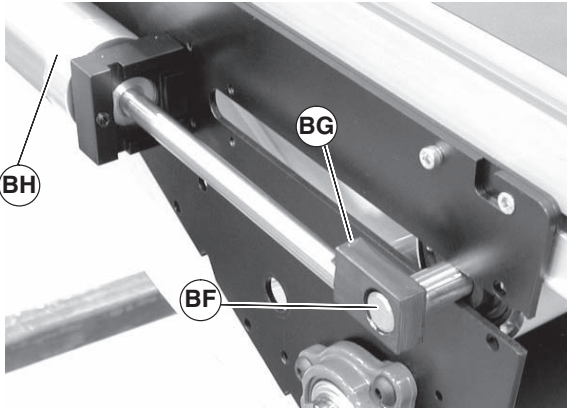

Figure 85
6. Push shaft (Figure 85, item BF) through block (BG) on opposite side of center drive, slide block toward air cylinder (BH).